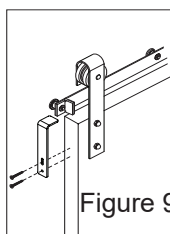

Figure 9
2. Install the bracket to the door edge with 2 Phillips screws(provided) using a drill with a Phillips bit (Figure 9).